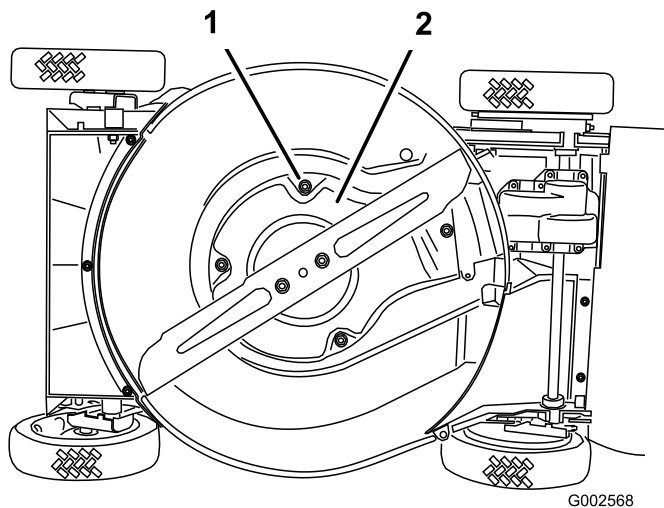

Figure 36
6. Remove the 4 screws that hold the shield in place (Figure 36)..